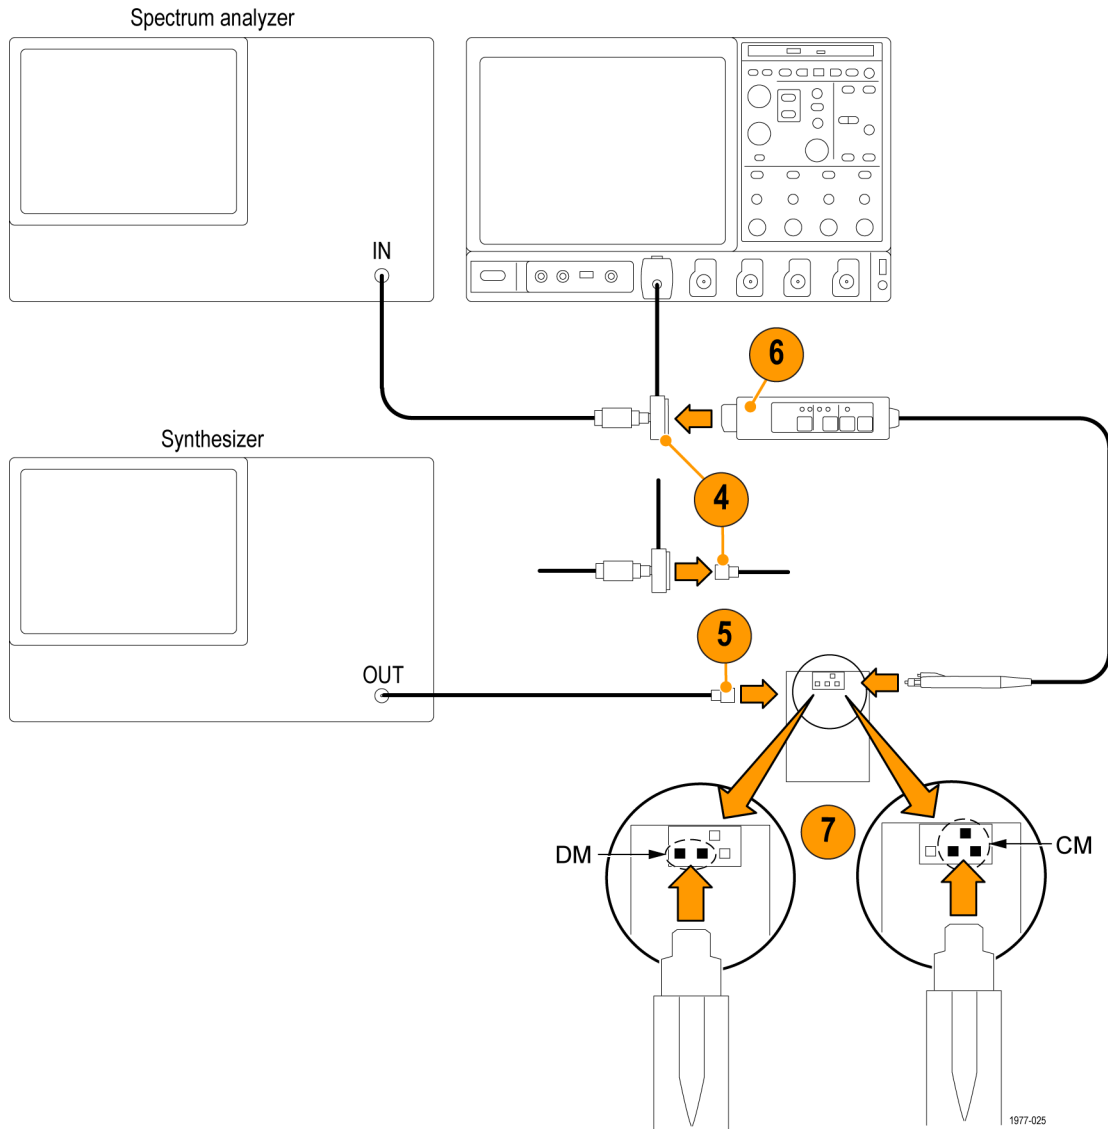

Figure 22: Probe tip test connections
7. Connect the probe tip to the DM pins of the BNC-to-probe tip adapter. (See Figure 22.)